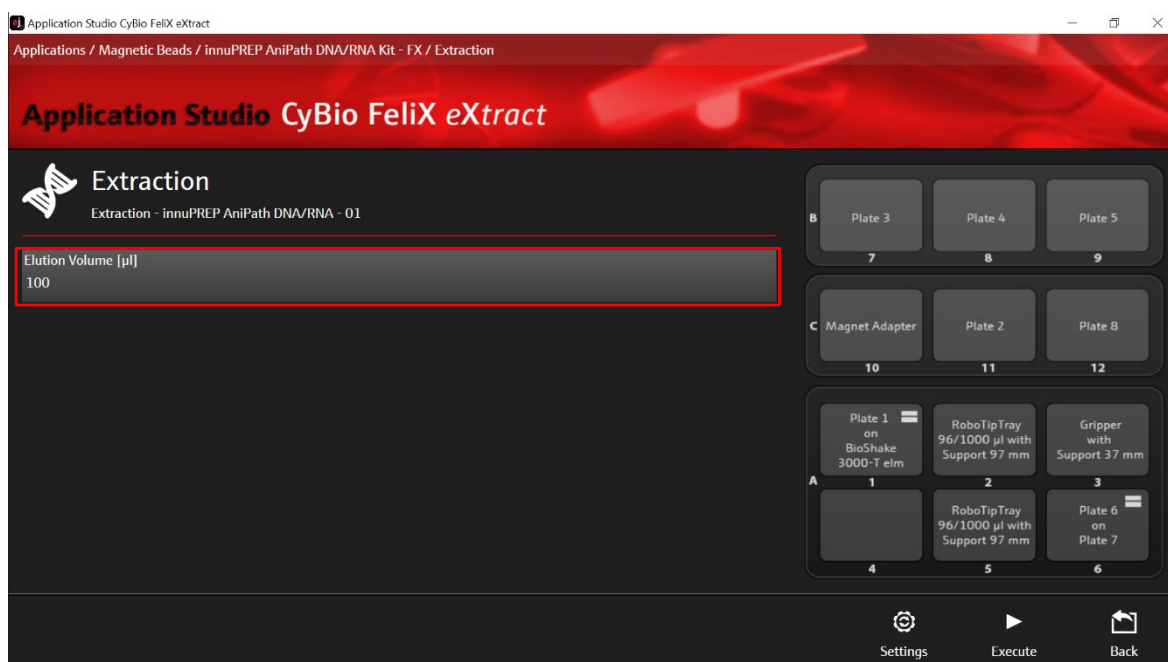

Figure 15: Adjustment of the elution volume.
7. After selecting "Extraction" the Extraction Start Screen appears (→ see Figure 15).
9. Adjust the elution volume (elution volumes range from 50 μ L to 200 μ L (→ see Figure 15). 100 μ L are recommended for general applications or to start establishing a workflow using extraction and downstream applications).